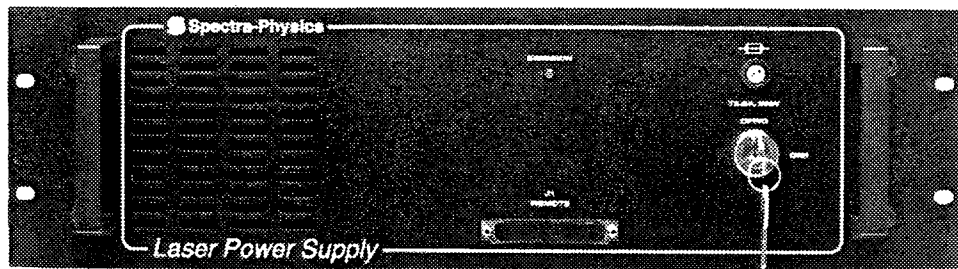

FIGURE 3-1: R-Series Power Supply Front Panel
2. Verify that the laser can only be turned on when the key switch (Figure 3-1) is in the ON position, and that the key can only be removed when the switch is in the OFF position.
3. Verify that the emission indicator (Figure 3-1) provides a visible signal when the laser emits accessible laser radiation. Also verify that the signal provides an advance warning sufficient to allow action to avoid radiation exposure.